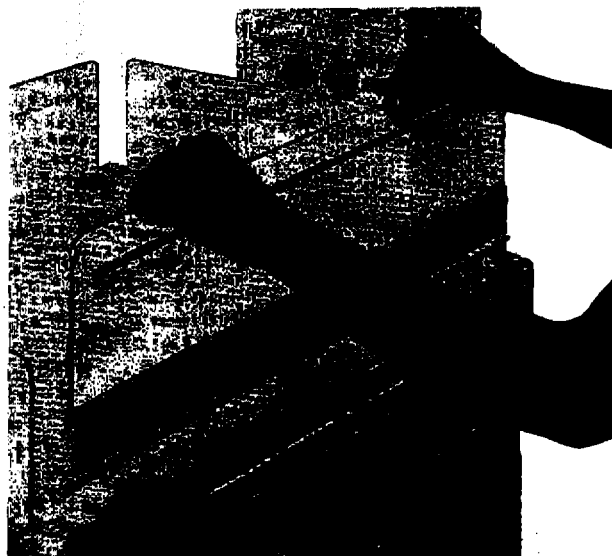

FIGURE 5.1 REMOVING BASSINET SIDE PANELS
1. Remove both Bassinet Side Panels (Figure 5.1) by pulling them straight up.
4. Replace the Bassinet Side Panels by pushing them straight down into their slots (Figure 5.1).